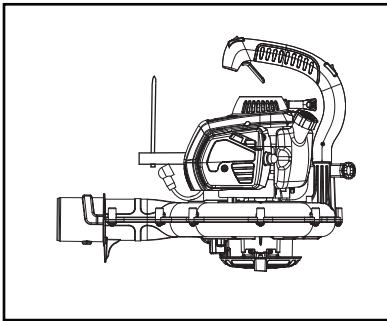

Fig . 15
2. Loosen the spark plug (11) anti-clockwise using the spark plug spanner rod (19) and socket spanner (20) and remove it carefully (Fig.15).